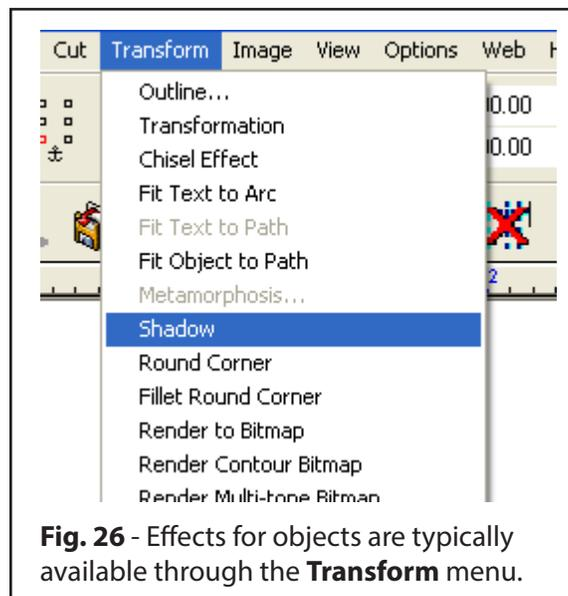

Fig. 26 - Effects for objects are typically available through the **Transform** menu.
1. Choose **Transform** menu >> **Shadow** (Fig. 26).